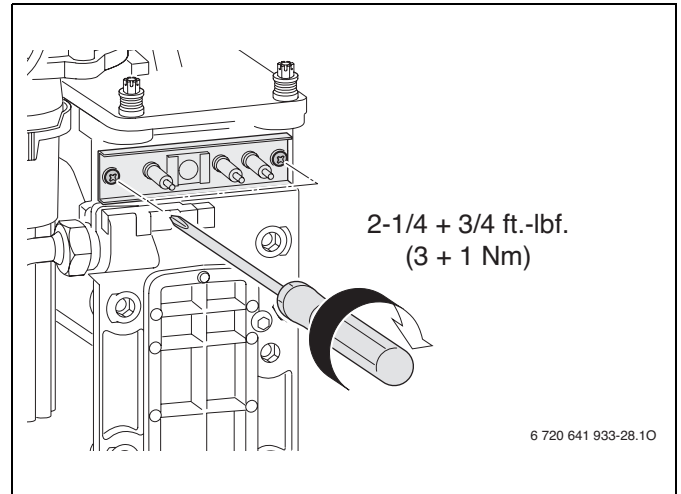

Fig. 82 Reinstalling the electrode set
- ▶ Check filter in the cold water pipe for contamination (→ Fig. 82).